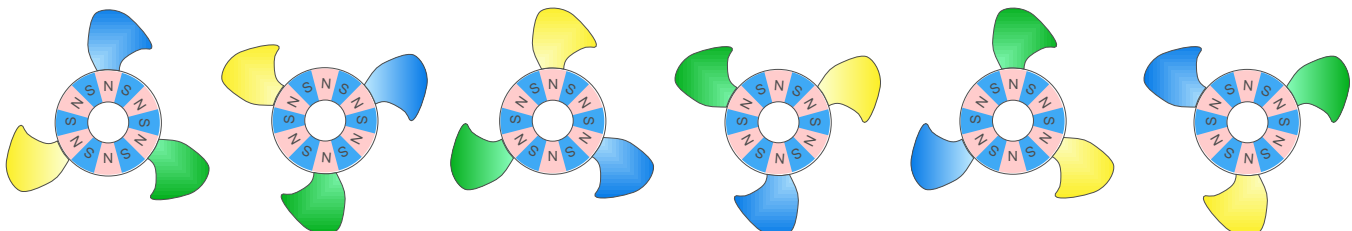

Figure 4. Multiple Motors
3. Count the number of settle-down positions, which is the number of pole pairs. Multiplying by two calculates the number of poles (In Figure 4, there are six pole pairs in the motor).